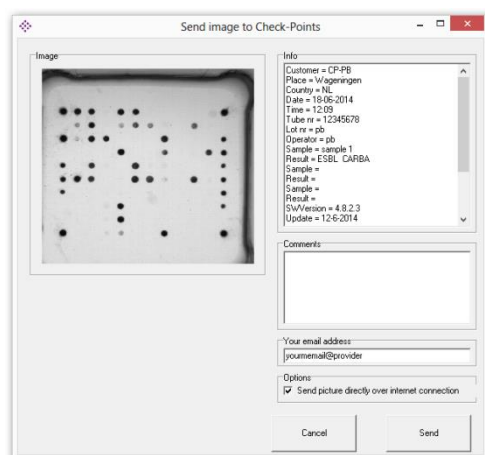

Figure 8: "Send image to Check-Points" pop-up.
- For support concerning results please send the result image along with the desired information to **support@check-points.com**. For this purpose, double click on the result(s) in question in the result summary window. A pop-up will appear (see figure 8) in which your comments may be added to the file.